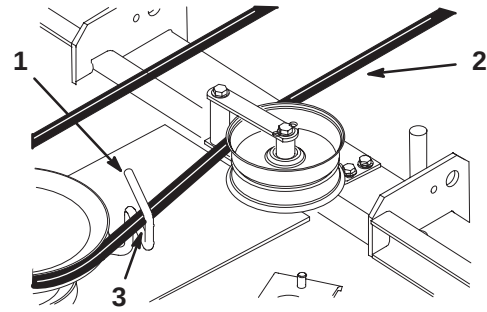

Figure 66
11. Rotate the belt guide, on rear of the mower, so it is 1/8–1/4 in. (3–7 mm) away from the vertical side of the PTO belt (Fig. 66).